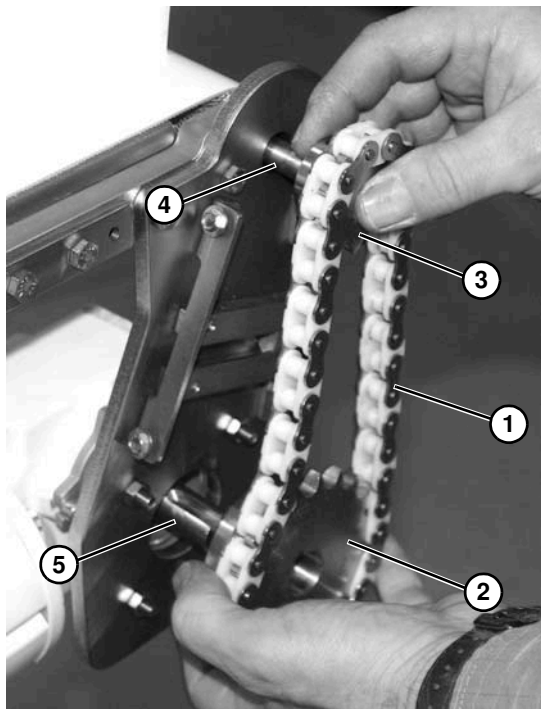

Figure 38
*Make sure sprocket keys are installed on conveyor input shaft (**Figure 38, item 4**) and gearmotor output shaft (**Figure 38, item 5**).*
1. Install timing chain (**Figure 38, item 1**) over drive sprocket (**Figure 38, item 2**) and driven sprocket (**Figure 38, item 3**). Install timing chain and sprockets on conveyor input shaft (**Figure 38, item 4**) and gearmotor output shaft (**Figure 38, item 5**). Do not tighten sprocket set screws.